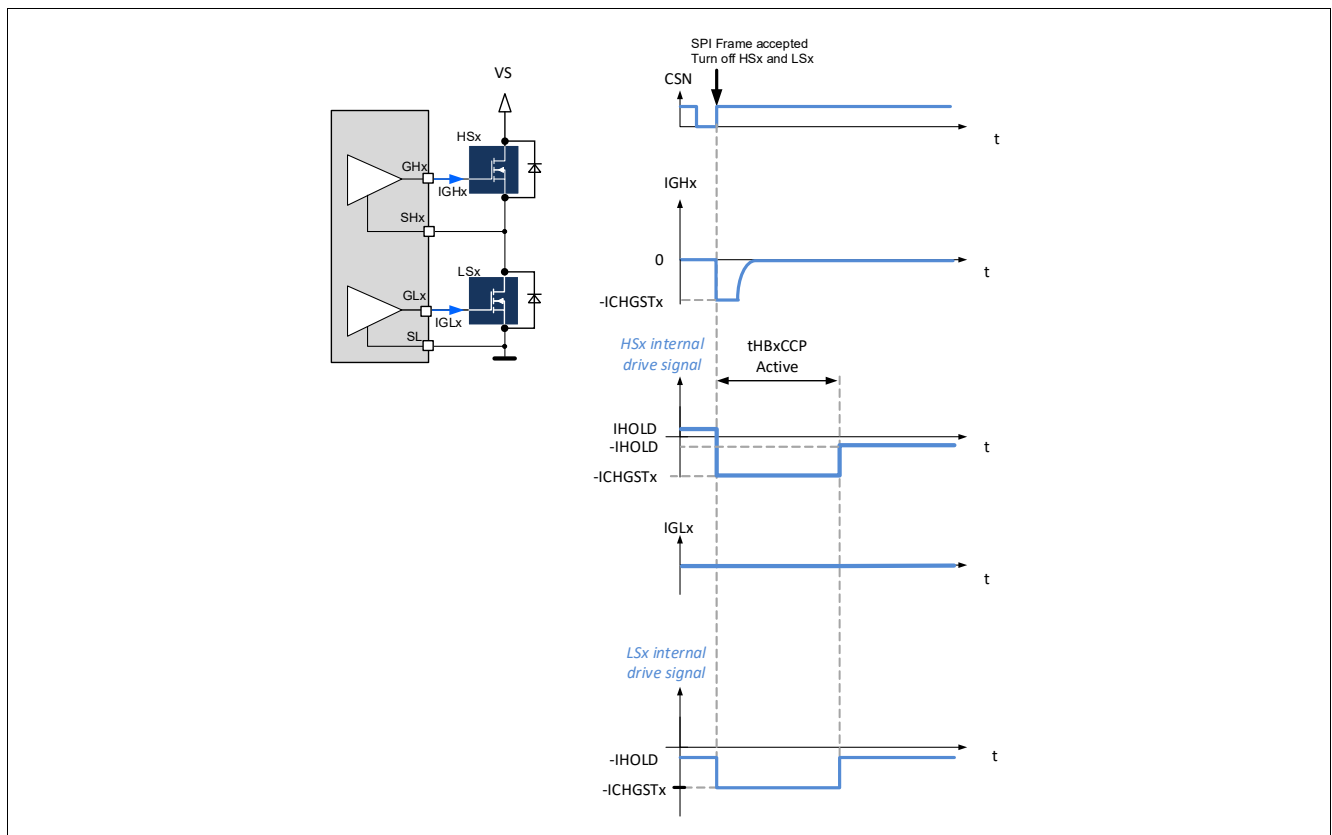

Figure 44 Turn-off of the high-side and low-side MOSFETs of a half-bridge
- The gate of HSx and LSx are discharged with the current -ICHGSTx for the duration $t_{HBxCCP\ ACTIVE}$ (Figure 44).